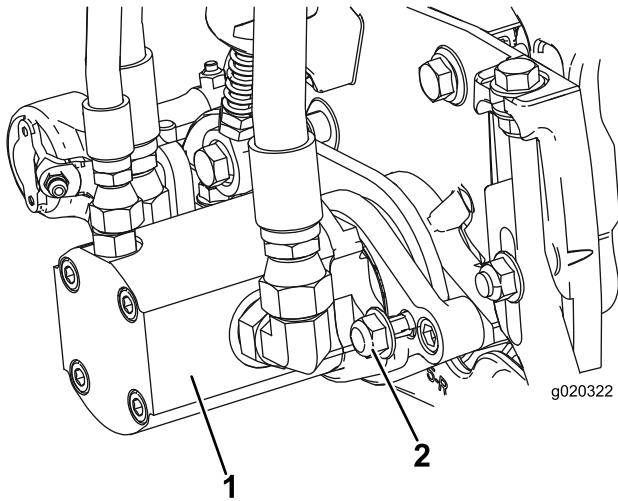

Figure 11
16. Install the motor by rotating it clockwise so that the motor flanges clear the locknuts (Figure 11). Rotate the motor counterclockwise until the flanges encircle the nuts then tighten the nuts.